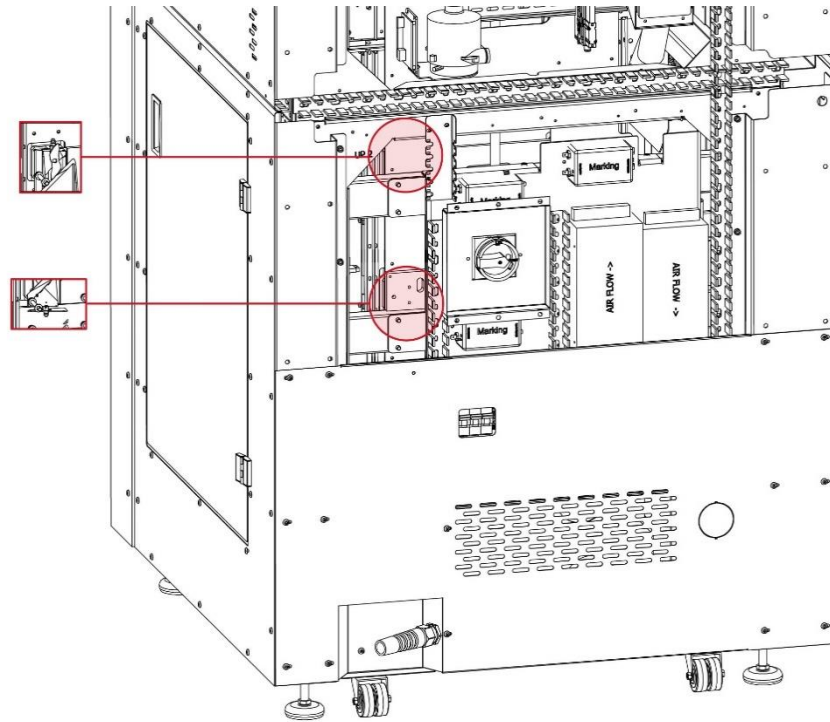

Fig. 113 Location of the grease nipple
14. Locate the upper right grease nipple (viewed from the front of the printer) as shown in Fig. 113. The location of this grease nipple is also marked in Fig. 113.